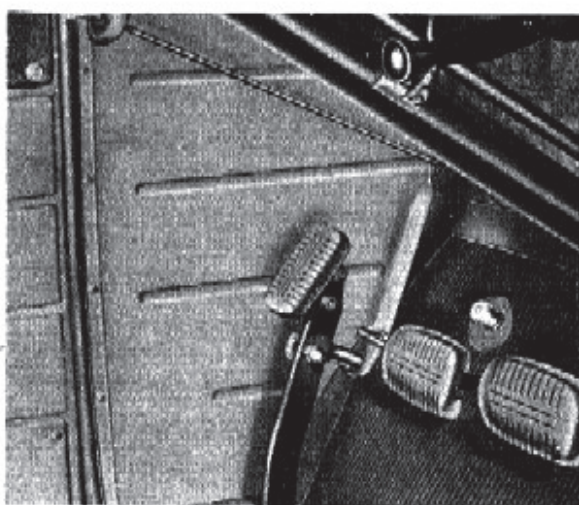

Fig. 10—Clutch and Brake Pedals
**Dimmer Switch.** The dimmer switch located on the toe-board to the left of clutch pedal (fig. 10) is used to switch the headlamp beam from "high" to "low" or "low" to "high". Each time the switch is depressed the light beam is reversed. A headlamp beam indicator is located between the 0 and 80 at the bottom of speedometer. When the lights are on upper beam a red light is visible through the indicator opening. Avoid use of upper beam when meeting other vehicles on the highway or in city traffic.
**Clutch Pedal.** The clutch pedal is conveniently located for use by the driver's left foot (fig. 10). It is used to engage and disengage the
**Brake Pedal.** The brake pedal is located to the right of clutch pedal (fig. 10). Depressing this pedal applies the hydraulic service brakes at all four wheels in proportion to the pressure applied on the pedal. For pedal free travel, see page 55.
**Foot Operated Parking Brake.** Parking brakes on all  $\frac{1}{2}$ ,  $\frac{3}{4}$  and 1 ton models are pedal operated. The operating pedal (fig. 10) is located to the left of the clutch pedal and pressing down on this pedal applies the rear wheel brakes through mechanical linkage entirely independent of the hydraulic system. To release the brakes a release lever is mounted on the instrument panel.